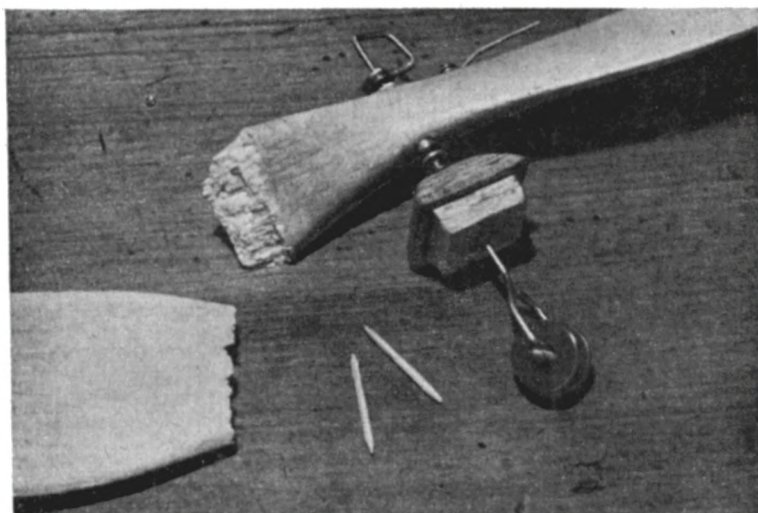

Fig. 1. The broken propeller of a rubber model. Note the two small cane dowels, sharpened at both ends.
First of all split off two thin strips from a piece of cane. They should be about an inch long and only as thick as a match stick. Sharpen them at both ends. Fig. 1 shows these two little cane dowels, and the propeller with the blade snapped right across. Try pushing the two parts of the broken propeller together, and work them carefully against each other. If the break is a clean one as is the case in Fig. 1, they should knit together so closely as to make the joint practically invisible. If the faces of the break have become squashed or damaged in some way, now is the time to remove the odd splinters of wood so as to make the "dry" joint as neat as possible before the dowels or any
1. Radio layout and battery wiring. The novice must understand how to connect up his batteries by simple soldering, and I am going to assume he does not even realize how the components are installed in the model. My explanation may prove a little longwinded, but I am describing things to people who are new to it, and I want them to find their way about in an orderly manner. The layout can be studied in Fig. 1, and comprises (a) A transmitter on the ground, with its batteries. (b) The receiver with its *all important* "relay", which will be described in detail later, and an actuator, with their attendant batteries in the model.
Now follow Fig. 1, (b) and (c) which shows the receiver and its batteries and the servo with its batteries, whilst below it will be seen where these components fit into the model. In Fig. 2 the reader will see how to wire and solder up the batteries shown in Fig. 1. It will be noticed that the H.T.